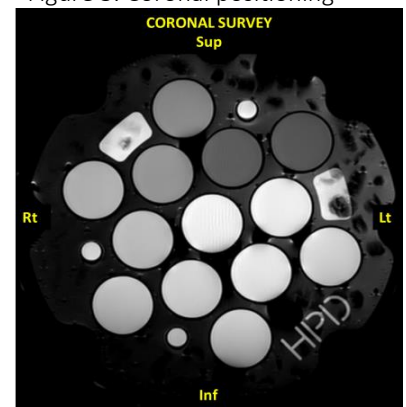

Figure 4. Coronal slice mid-phantom.
- See Figure 4 for representative coronal slice mid-phantom